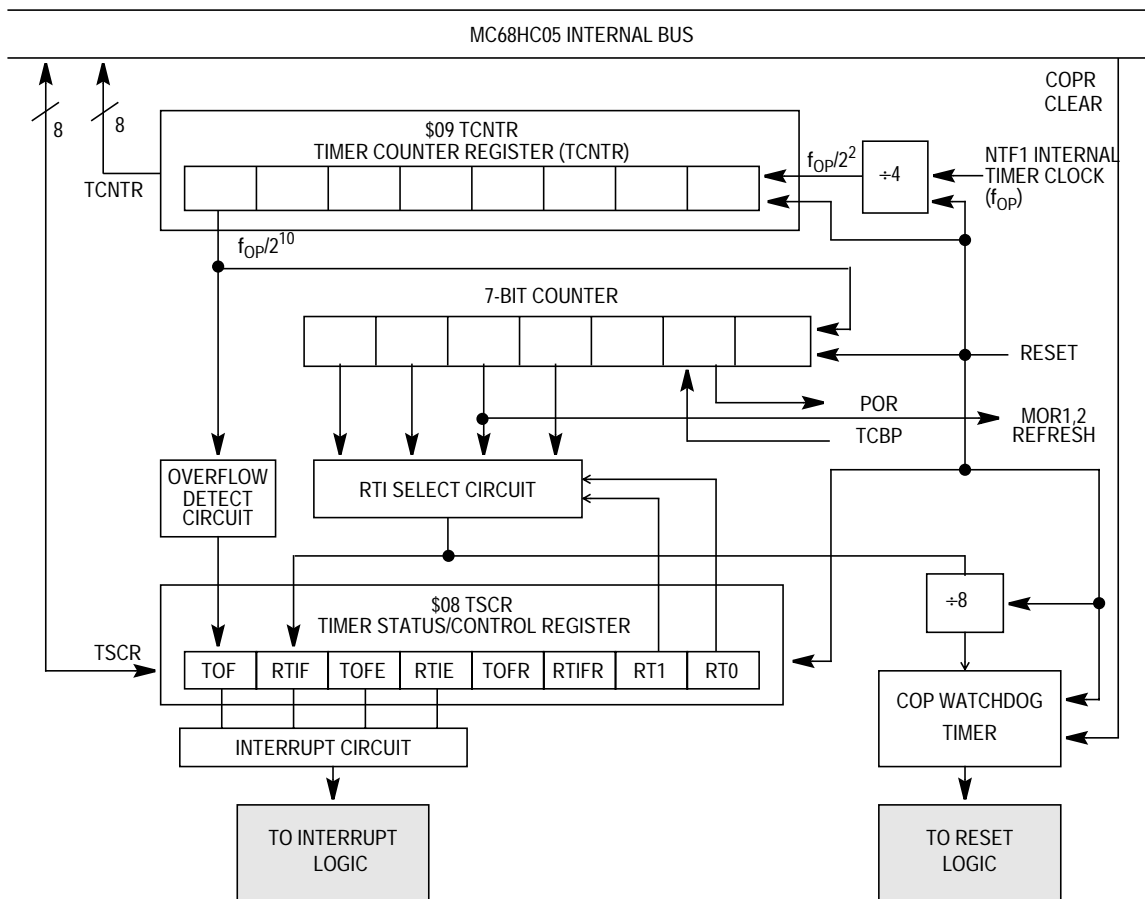

Figure 8-1. Timer Block Diagram
As shown in **Figure 8-1**, the timer is driven by the timer clock, NTF1, divided by four (4). NTF1 has the same phase and frequency as the processor bus clock, PH2, but is not stopped by the wait or halt modes. This signal drives an 8-bit ripple counter. The value of this 8-bit ripple counter can be read by the CPU at any time by accessing the timer counter register (TCNTR) at address \$09. A timer overflow function is implemented on the last stage of this counter, giving a possible interrupt at the rate of $f_{OP}/1024$. Two additional stages produce the POR function at $f_{OP}/4064$ or $f_{OP}/16$, followed by two more stages, with the resulting clock ($f_{OP}/16,384$) driving the real-time interrupt (RTI) circuit.